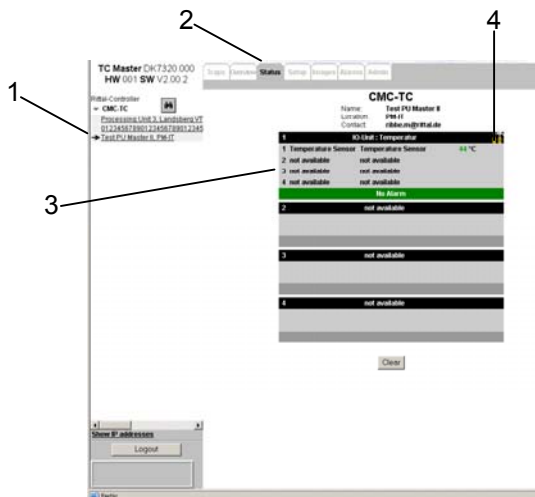

Fig. 39 Sensor units status overview
- Click in the left-hand frame of the browser window (Figure 39, item 1) on the link of the Processing Unit (this is then marked with an arrow).
- Then click the “Setup” tab (2).
- If you want to reconfigure the sensors, click the tool icon (4) to immediately display the Setup menu (see Section 7.8 Setup for Logged In Processing Units)